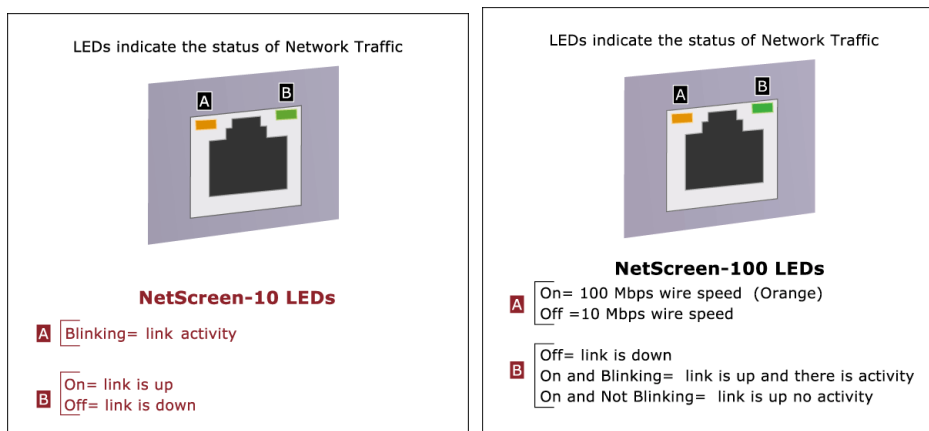

Figure 1-2 Ethernet LEDs
- **Trusted, DMZ, and Untrusted Ethernet LEDs:** Each Ethernet port has two link lights, or LEDs. The left LED indicates network traffic activity and the right LED indicates if the link is up (connected to an active device). These LEDs differ for the NetScreen-10 and NetScreen-100. See Figure 1-2.